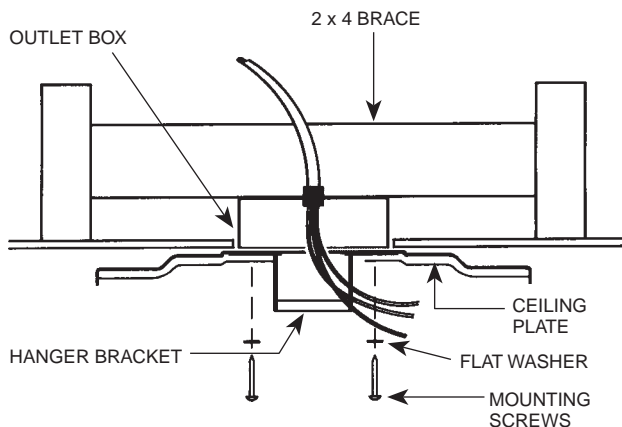

FIGURE 4B
**B.** Thread the lead wires through the opening in the top of the ceiling plate and through the opening in the side of the hanger bracket. See Figure 4B.
Using the two center slots, install the ceiling plate to the 2 x 4 brace which supports the outlet box. Use (2) #10 woodscrews 3" long and (2) flatwashers for mounting. Drill (2) pilot holes for the mounting screws 9/64" diameter. See Figure 4B.